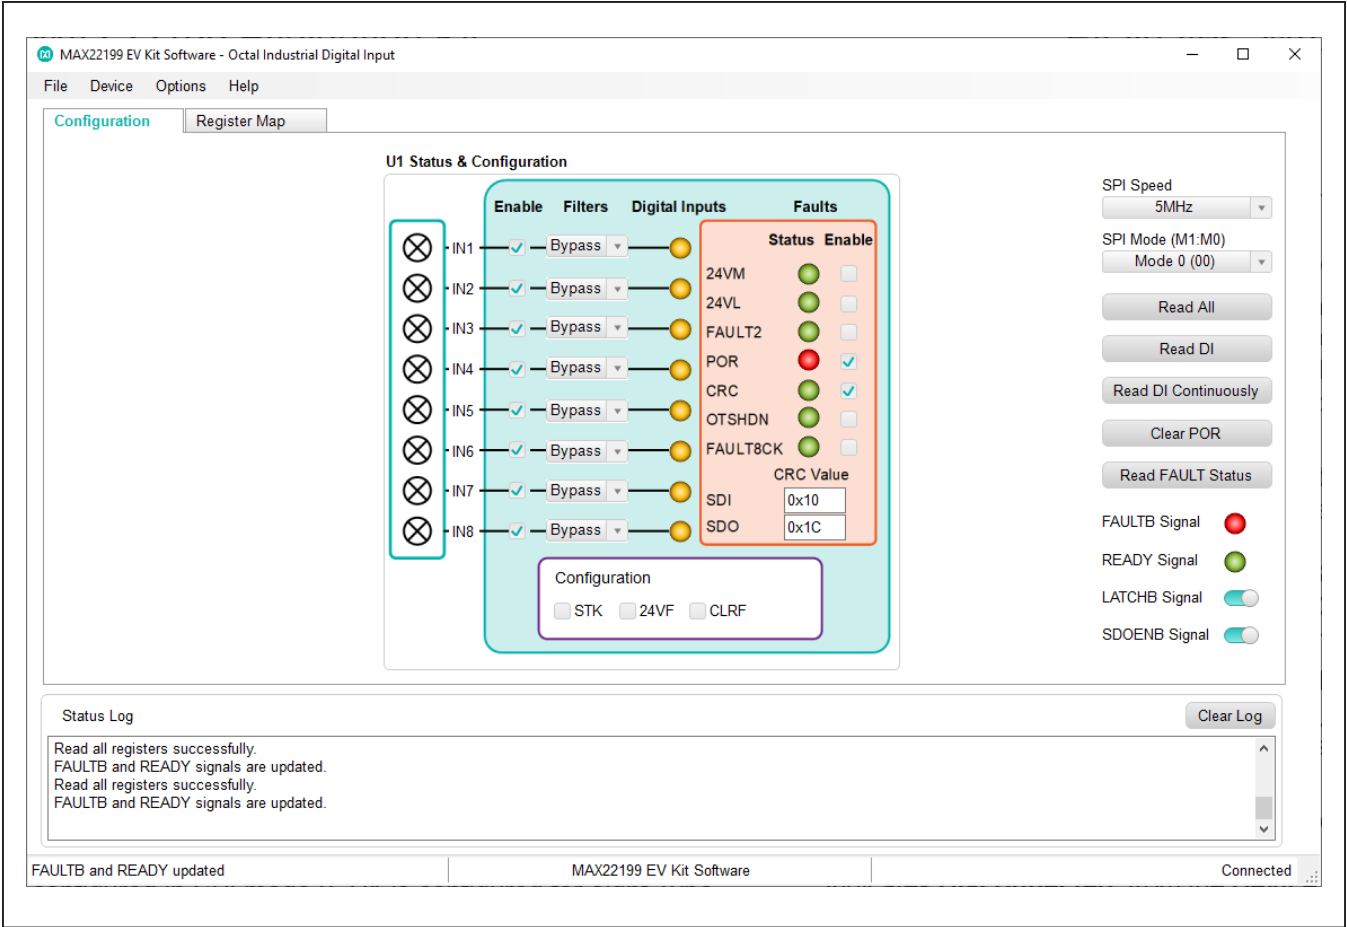
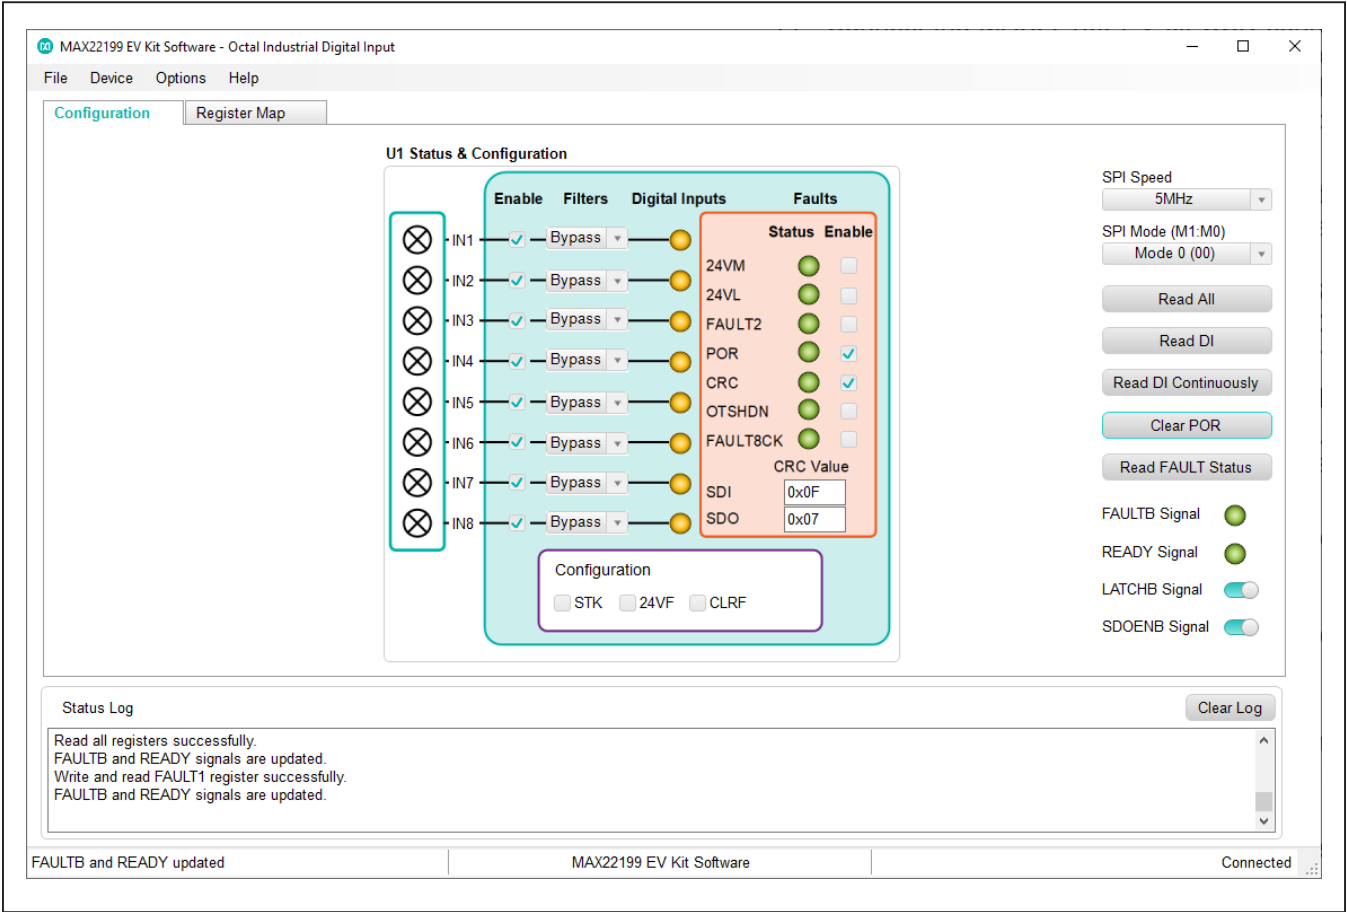

Figure 1. MAX22199 EV Kit Software Startup Window
Figure 2. MAX22199 EV Kit Software—Clear POR
- 9) Once the hardware is ready to use, launch the EV kit software by opening its icon in the **Start | Programs** menu. The EV kit software appears as shown in Figure 1.
- 11) Click the **Clear POR** button. Observe that **POR** status light for U1 is changed to green, and **FAULTB Signal** status light is also changed to green in the **Configuration** tab as shown in Figure 2.
When the MAX22199 EV kit software starts, it automatically detects if the EV kit is connected to a PC and indicates its status in the status bar at the bottom edge of the GUI. If the software does not recognize the EV kit board, make sure that the software and all drivers are properly installed, check the USB connection, and go to the **Device** menu and select the **Search for Hardware** option. When the EV kit is properly connected, the MAX22199 device (U1) is read and all controls are updated (see Figure 1).
default (Figure 1). After clicking the **Clear POR** button, the software clears the POR bit in the FAULT1 register. The $\overline{\text{FAULT}}$ pin is pulled high and FAULTB LED on the EV kit is turned off after clearing the POR (Figure 2).